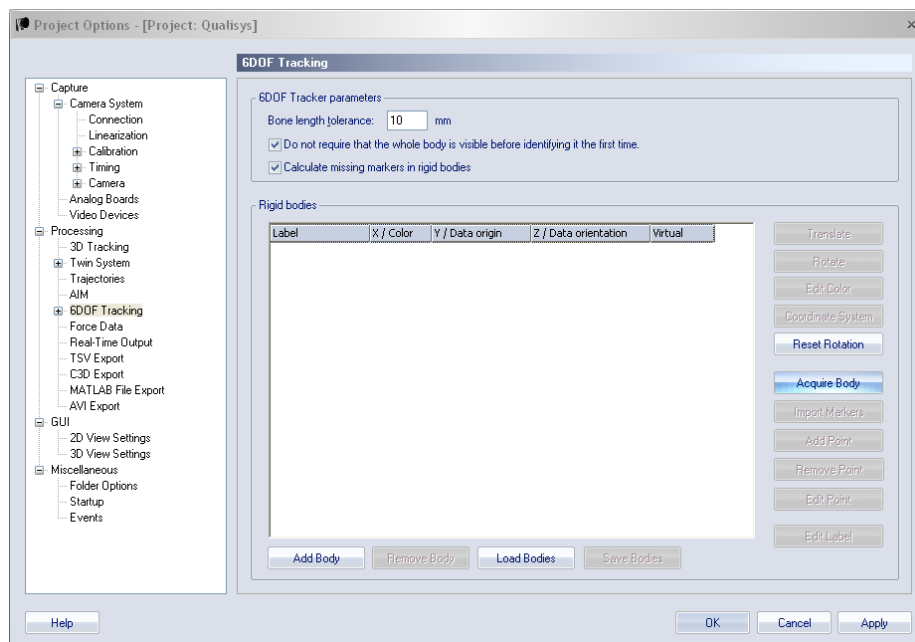

Figure 1.4: Qualisys Track Manager 6 DOF Tracking
1. Push the gear icon to access Project Options. Navigate to 6DOF Tracking, as in Figure 1.4.